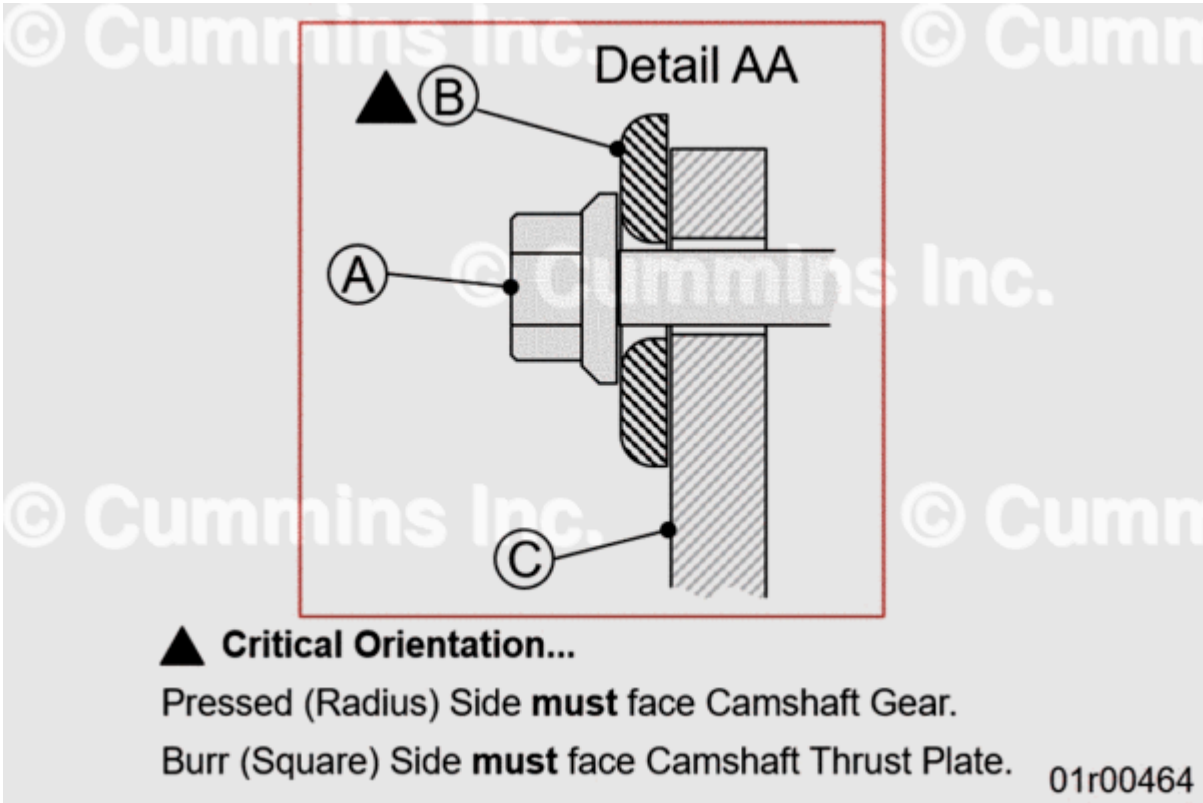

Figure 2, Detail AA Showing Correct Washer Orientation at Installation.
- There are two different faces to the washer; see Figure 2.